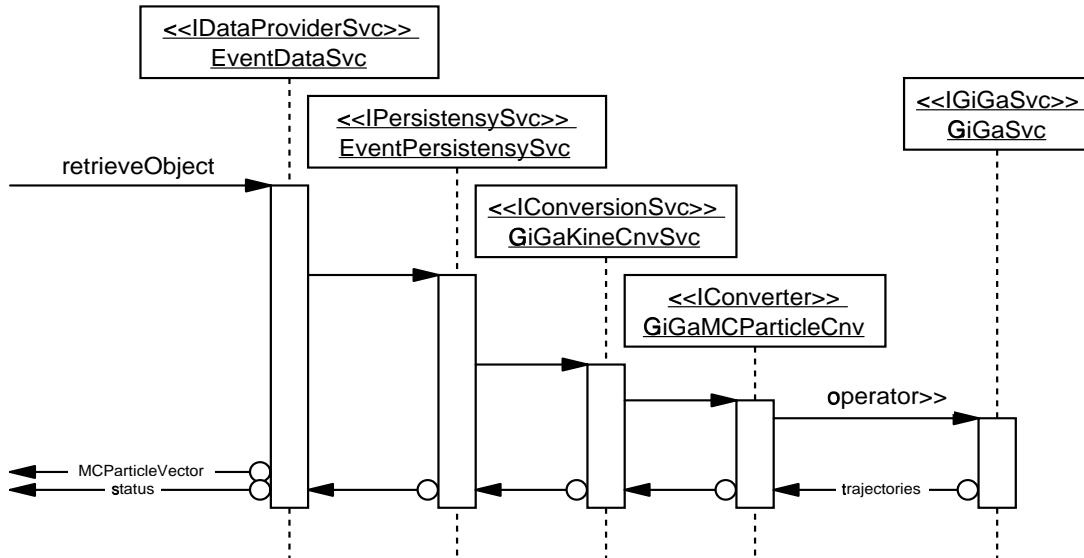

Figure 3.5: The simplified interaction diagram for persistency emulation with **GiGA**
**GiGA** could be naturally considered as an artificial persistency of "read-only" technology. This is illustrated by simplified interaction diagramm shown on figure 3.5. The illustrated example shows the simplified interaction between data provider ("**EventDataSvc**"), its persistency service ("**EventPersistencySvs**"), conversion service ("**GiGaKineCnvSvc**"), concrete converter ("**GiGaMCParticleCnv**") and **GiGaSvc**. In this context **GiGaSvc** is considered just external data stream, and concrete converter just "reads" the appropriate data from that stream using ordinary **operator>>**.